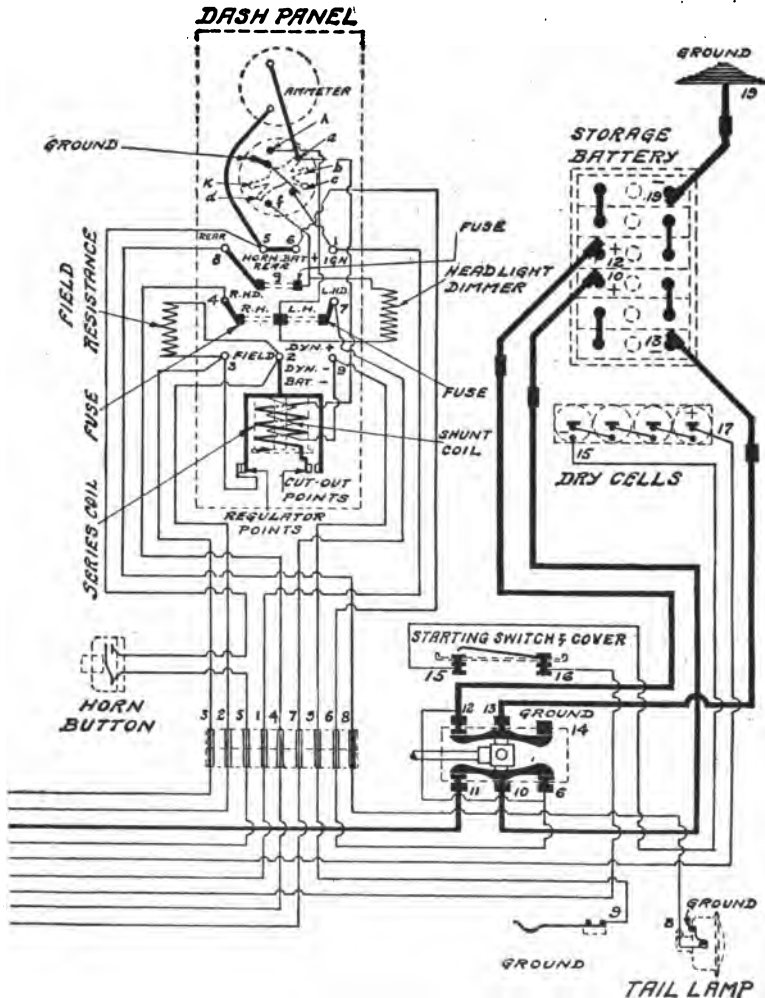

Fig. 324b. Complete Wiring Diagram for 1916-17 Maxwell Cars, Showing Details of Dash Panel and Batteries
**Wiring Diagram.** Fig. 324a and Fig. 324b show the wiring diagram complete of the ignition, starting, and lighting systems as installed on the 1916 and 1917 Maxwell cars. The heavy lines indicate the starting-system connections, while the light lines are the wires leading from the generator to the battery (through the regulator and cut-out), and the various connections for the ignition and the lamps. They show very plainly, upon tracing them out, the relation of the regulator and cut-out to the generator and the battery, as well as the method of dividing the six cells of the battery into two units for lighting service, and the coupling of all the cells in series for starting. It will be noted also that the storage battery is not utilized for ignition, as the starting switch closes the circuit of a dry battery of four cells for ignition when starting the engine. As the starting switch automatically opens this circuit when released, there is no danger of this battery being inadvertently left in circuit.